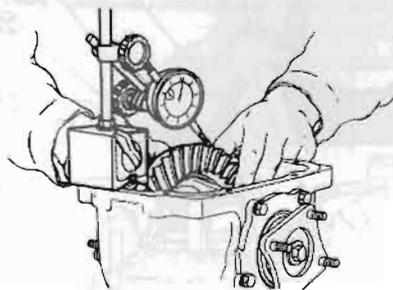

Fig. PD-4 Measuring the backlash of ring gear and pinion
3. Set up a dial indicator and check the backlash at several points around ring gear. Backlash should be 0.15 to 0.2 mm (0.0059 to 0.0079 in). See Figure PD-4.